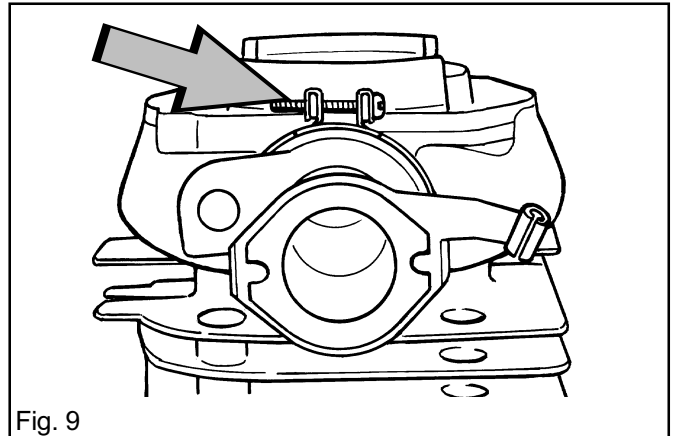

Fig. 9
3. Fit the inlet manifold to the cylinder. The clamp bolt should be mounted upwards, parallel to the flanges. See fig. 9.